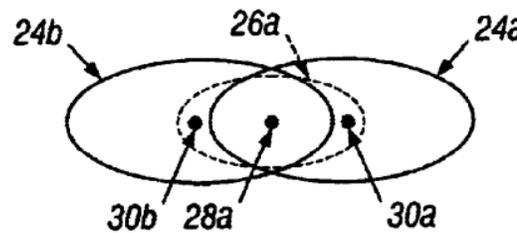

FIG. 5
- Fig 5 visual suggests Uncertainty can be reduced ~50%